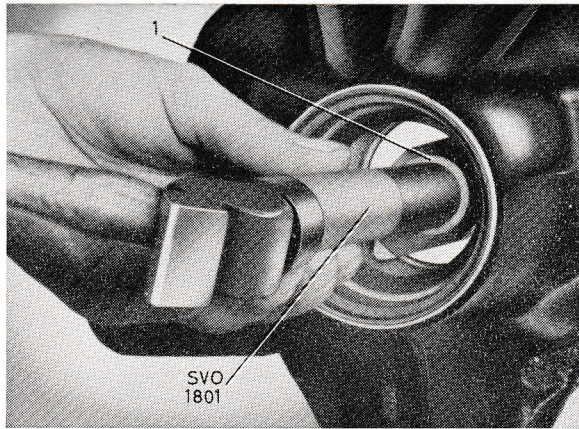

Fig. 10. Removing the bearing ring.
5. Drive out the bearing outer rings, Fig. 10, if required. Use tool SVO 4063 for the forward and SVO 4064 for the rear bearing ring together with the standard handle, SVO 1801. Be careful not to lose the shims (28).